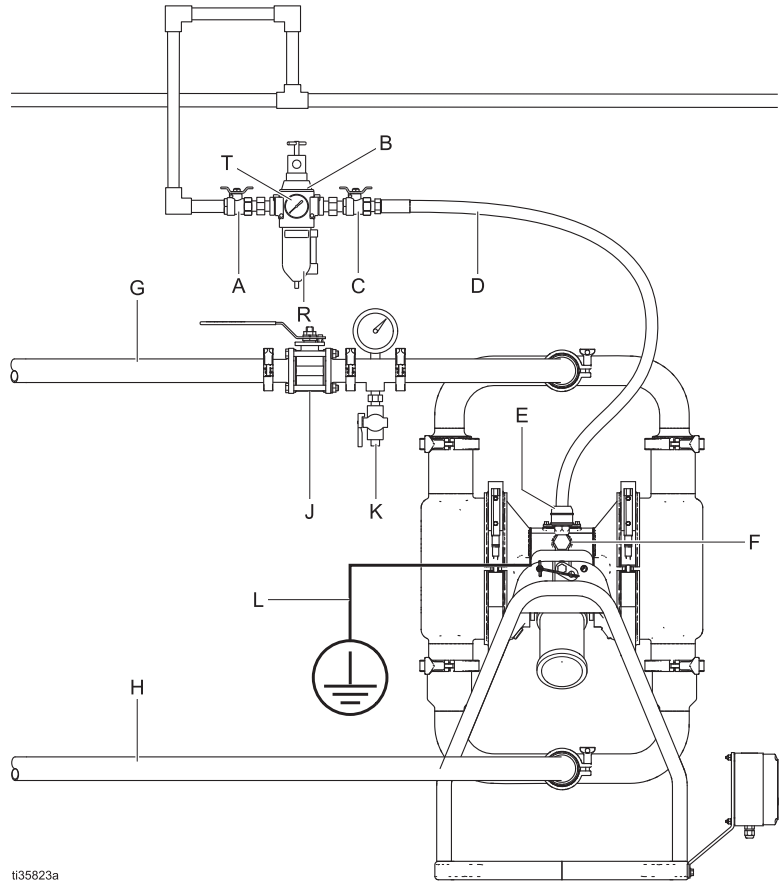

FIG. 2: Typical Floor-Mount Installation
- A typical installation is shown in FIG. 2. It is only a guide for selecting and installing system components. Contact your Graco distributor for assistance in planning a system to suit your needs.
<p>A bleed-type master air valve (C) is required in the system to relieve air trapped between this valve and the pump. Trapped air can cause the pump to cycle unexpectedly, which could result in serious injury including splashing in the eyes or on the skin. See FIG. 2.</p>
1. Install the air line accessories as shown in FIG. 2. Verify that the air line supplying the accessories is grounded.
- a. Install an air regulator (B) and air pressure gauge (T) to control the fluid pressure. Reducing the supplied air pressure will reduce the pump's fluid outlet pressure.
- b. Locate one bleed-type master air valve (C) close to the pump and use it to relieve trapped air. Locate the other master air valve (A) upstream from all air line accessories and use it to isolate them during cleaning and repair.
- c. The air line filter (R) removes harmful dirt and moisture from the compressed air supply.
2. Install a conductive, grounded, flexible air line (D) between the accessories and the 1/2 npt(f) pump air inlet (F). Use a minimum 3/8 in. (9.5 mm) ID air line. If necessary, install an air line coupler (E) between the air line (D) and the pump air inlet (F), and tighten until snug.
2. Install a fluid drain valve (K) close to the pump fluid outlet. See FIG. 2.